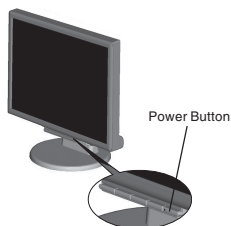

Figure C.1
4. Connect all cables to the appropriate connector on the back of the monitor (**Figure B.1**). Connect the Headphone (not included) to the appropriate connector at the rear side of the monitor (**Figure C.1**).
6. Turn on the monitor with the front power button and the computer (Figure C.1).